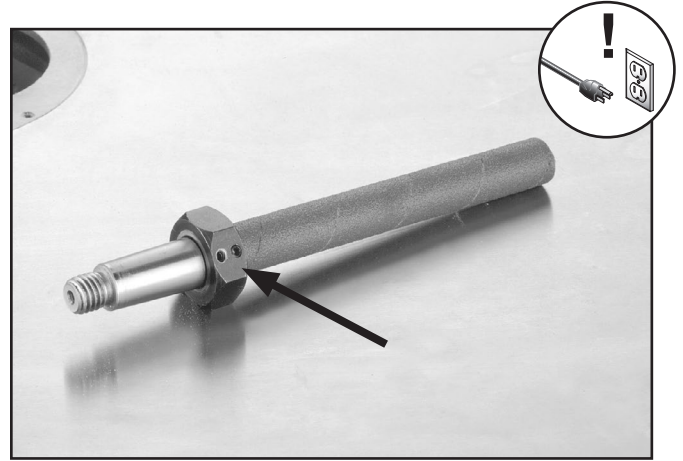

Figure 30. Retainer nut set screw.
2. Loosen set screw located in retainer nut (see **Figure 30**).